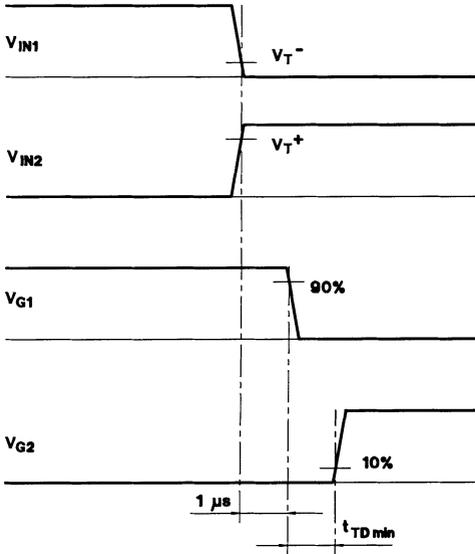

Fig. 6 Function of the drive interlock.
Fig. 6 (see page B 14 – 27) shows the function of the drive interlock with simultaneous change of the two input signals a delay takes place for the IGBT to be turned on which prevents a short circuit current to flow through the two power switches of the half bridge circuit. This delay time may be prolonged by a resistor  $R_{TD}$ . See the section on "the external components" and equation (4).